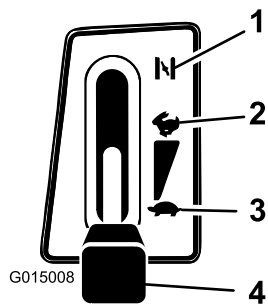

Figure 10
3. Shift the throttle lever to Choke (Figure 10).
5. After the engine starts, slowly shift the throttle lever to Fast (Figure 10). If the engine stalls or hesitates, shift the throttle lever back to Choke for a few seconds and then shift the throttle lever to Fast. Repeat this step as required.
- Shift the throttle lever to Fast (Figure 10).